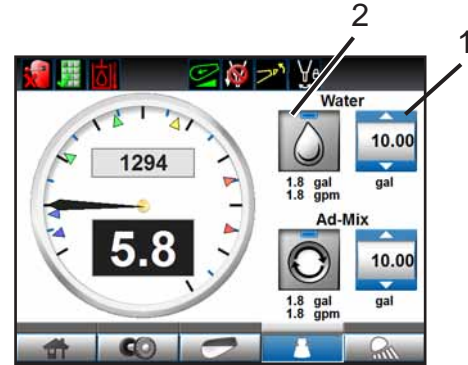

Figure 63
3. Edit the amount of gallons to be added (Figure 63, Item 1).
4. Touch the ADD WATER button (Figure 63, Item 2).